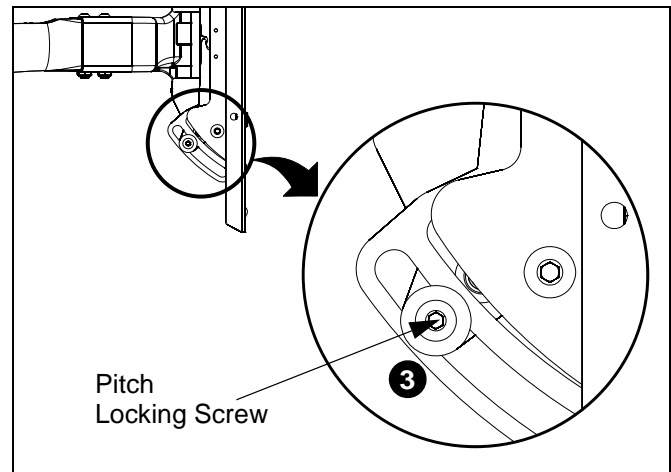

Figure 9
3. To lock the mount at the desired position, tighten the Pitch locking screw. (See Figure 9)